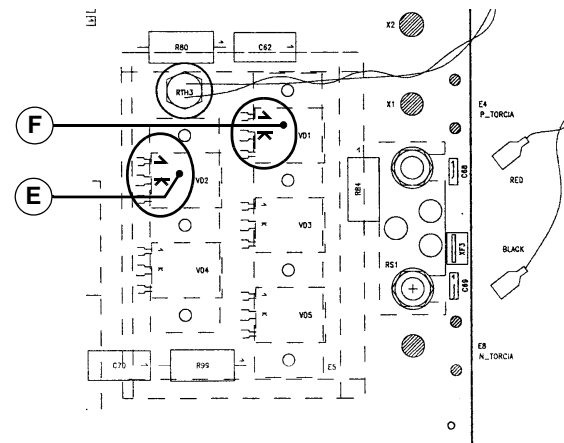

FIG. 5 - C.E. RIF. 1 MOD. CE22541
3. Diodes of the secondary circuit: check points 1-K of components E-F (fig. 5)